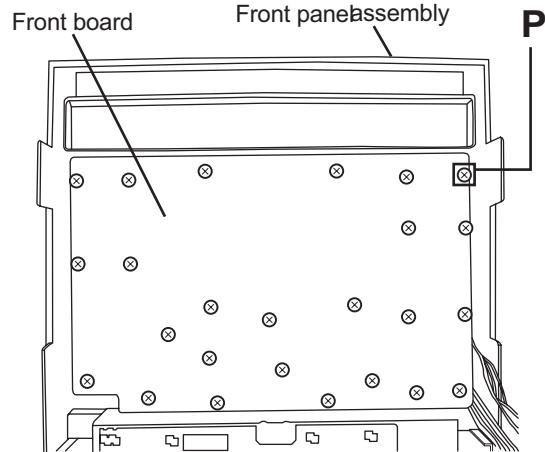
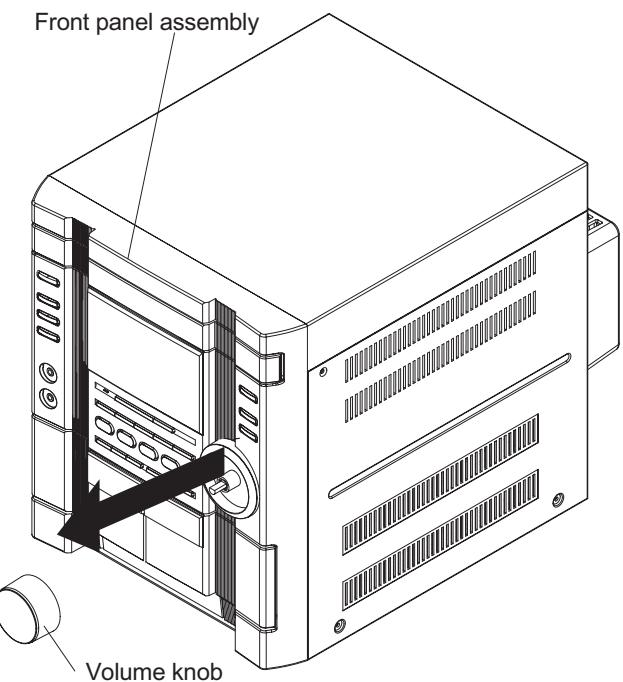

Fig.19
Fig.21
(See Fig.19)
3.2.9 Removing the Switch board and sound mode and CD function switch board (See Fig.19 to 22)
- (1) Pull out the volume control knob from the front of the front panel assembly.(Fig.21)
- (2) Remove six screws **Q** retaining the front panel assembly.
- (3) Remove the Control/FL board.
- (4) Remove eleven screws **R** retaining the Switch (key 1) board.(Fig.19)